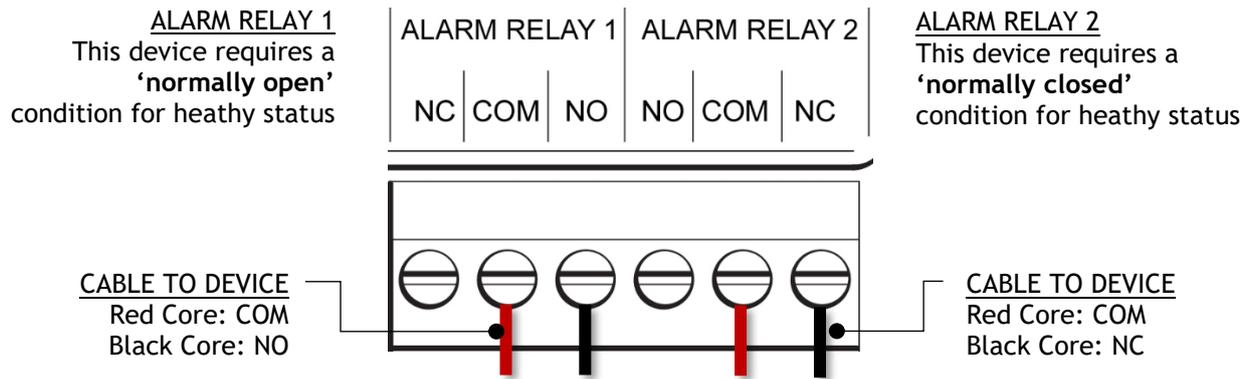

Figure 11: Connection for Signalling to an Ancillary Device
2. Connect the relevant relay (**Figure 11**; core colours are for illustrative purposes only and may differ during application).